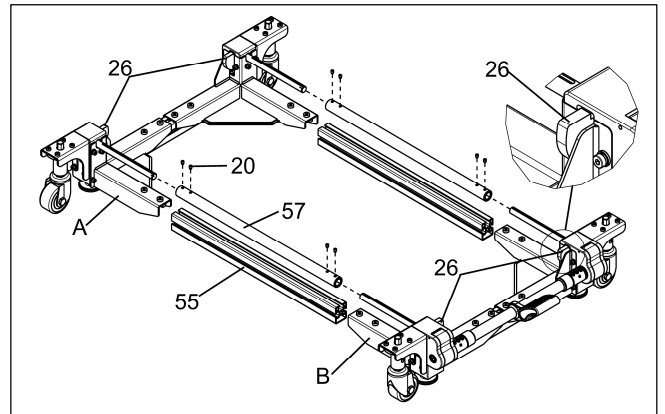

Fig.15
c. Insert long side rail “55” and coupler “57” into the rear corner bracket assembly “A” and the front corner bracket assembly “B”. Rotate cams “26” to the limit or highest and secure fastener “20” into the coupler hole. (see **Fig.15**)